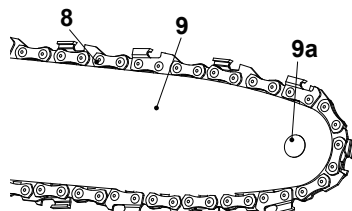

Fig. 4
5. The saw chain movement is as indicated by the arrow. Make sure the saw chain (8) is properly placed over the sprocket wheel (9a) of the guide bar (9) (Fig. 4).